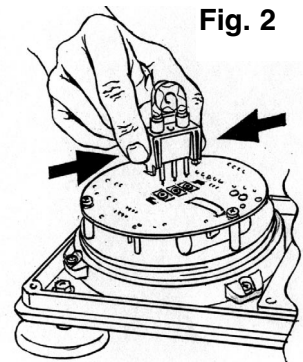

Fig. 2
5. **WARNING: HIGH VOLT IS PRESENT IN THE LIGHT STROBE WHICH CAN CAUSE SERIOUS INJURY OR DEATH.** Before attempting to do any service, always disconnect the light from its power source and wait a minimum of ten-(10) minutes before removing the lens and any work is done. A serious injury can result if the bulb is touched when hot. Always wear gloves and eye protection when removing the bulb because the bulb is pressurized and if broken, glass can be projected.
10. The base of the bulb has two tabs, press inward and remove the bulb by lightly pushing the base side to side while lifting upward. (See Fig.2)